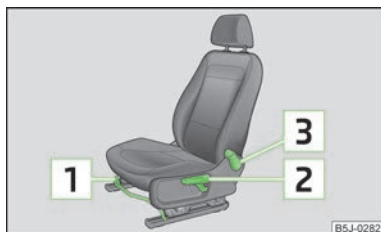

Fig. 38
- Pull the lever (in the middle area) » Fig. 38 up and push the seat into the desired position.
- To lift the seat, pull or pump the lever » Fig. 38 upwards.
- Remove the load on the seat backrest (do not lean on it), pull the lever » Fig. 38 towards the rear and set the desired angle of the seat backrest with the back.